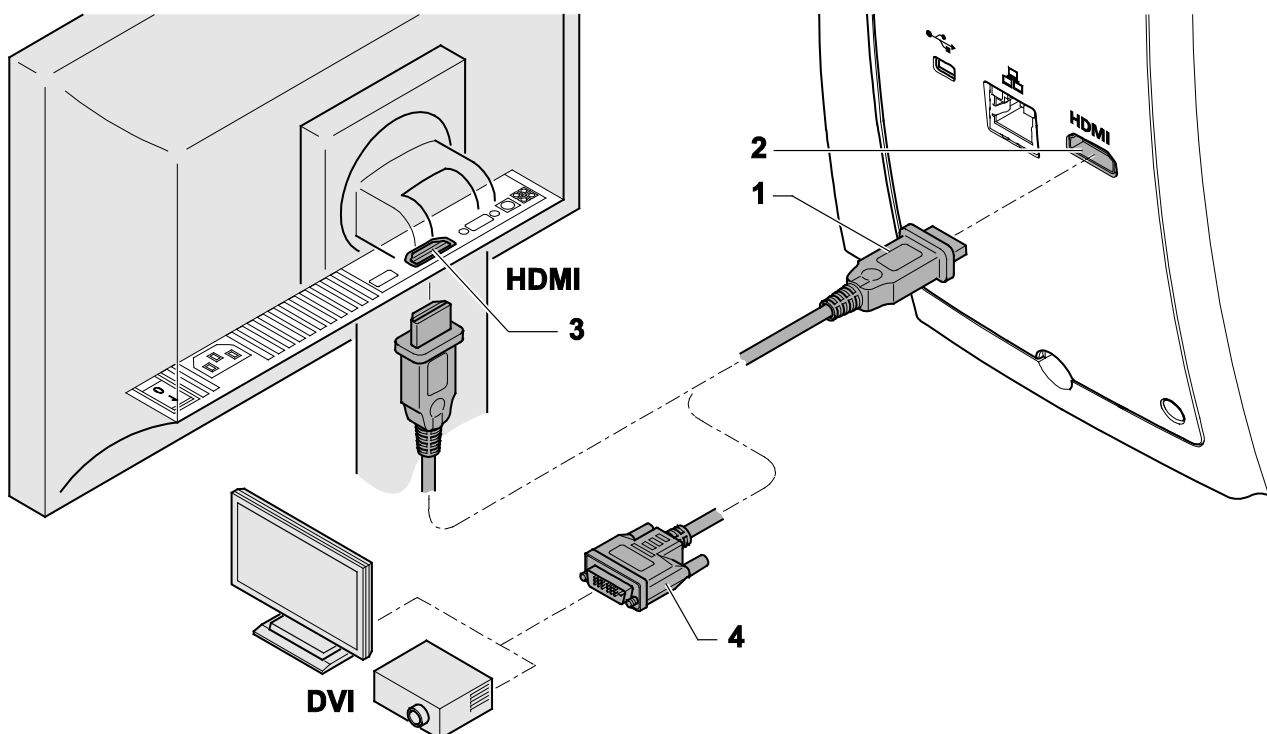

Fig. 20 Connecting the integrated camera to a monitor / projector
- Connect the monitor / projector to the integrated camera using the HDMI cable. To do this, insert the HDMI plug (Fig. 20/1) into the jack on the reverse side of the microscope (Fig. 20/2) and the monitor / projector (Fig. 20/3). Secure the HDMI plug on the jack on the monitor / projector.
If a monitor / projector is used, an HDMI / DVI adapter cable (Fig. 20/4) or HDMI / DVI adapter will be required for the reproduction of image data.